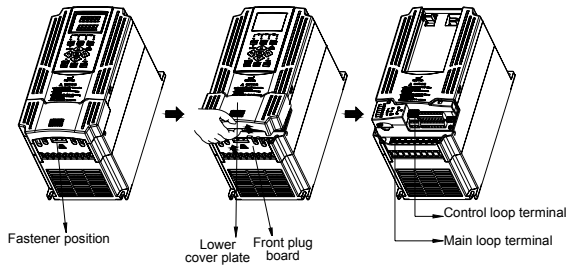

Figure 3-3 Disassembly and installation schematic diagram of plastic cover
If install more than 2 sets of frequency inverters in device or control cabinet, please conduct parallel installation in principle as shown in figure 3-3. If there is no choice but vertical installation, please consider setting partition plate as shown in figure 3-2, to ensure no influence on upper frequency inverter from lower frequency inverter.
**Removal:** put fingers on the handle slot at the bottom of cover plate (the position of clasp as figure 3-3), and forcibly lift it upward until the card clasps between cover plate and shell break away, then pull the cover plate down can disassemble the shell. See figure 3-3